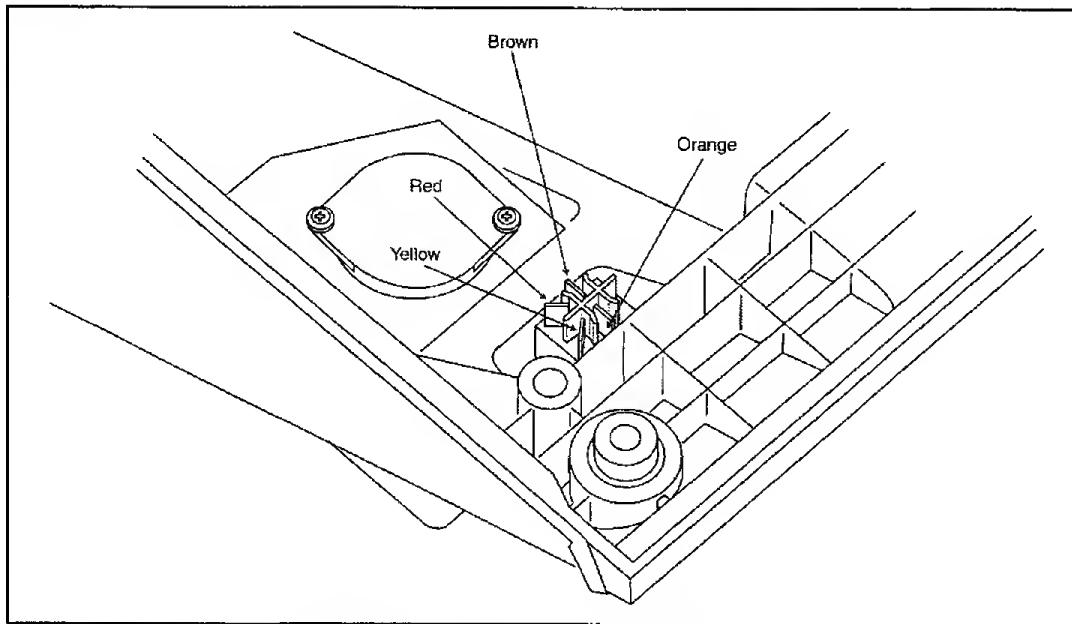

Figure 7-17: Power Switch Wire Connections
(Refer to Figure 7-17)
1. Inspect the two o-rings on the exhalation output manifold for cracks or deformation. Replace as necessary. Lightly lubricate the o-rings. **Note: The CV4 check valve should remain inside the exhalation valve when the outlet manifold is removed. If it falls out, install it into the exhalation valve assembly per Figure 7-17.**